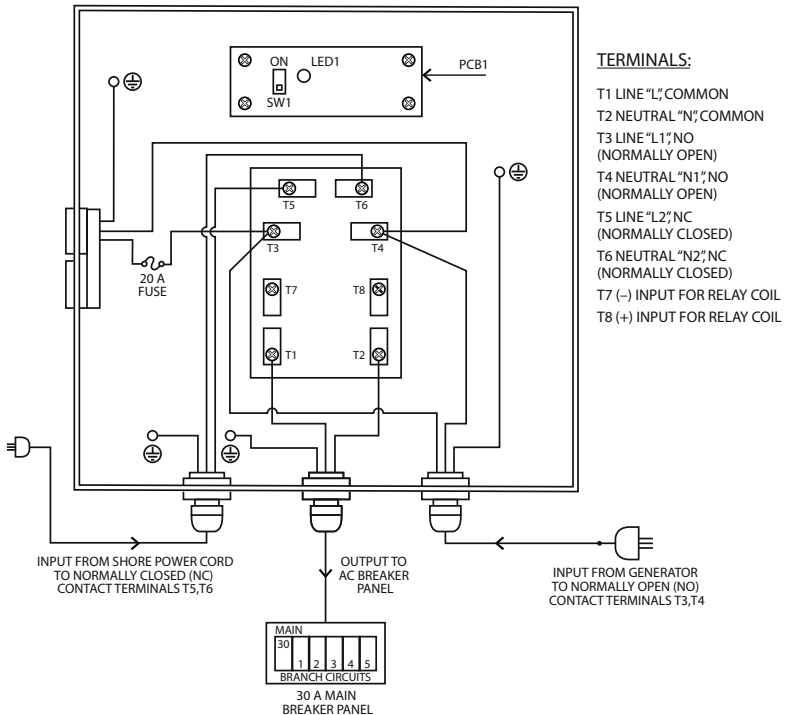

Fig. 5 Typical Generator / Power Cord
- a. Switch ON the AC input power from Utility/Shore Power Cord (RV). As the time delay has been disabled (As explained above, if the primary source is electric utility / shore power cord, the time delay should be disabled by changing the position of the DIP Switch SW1 to ON position), the relay coil will energize as soon as AC input is switched ON. The Green LED 1 will light up indicating that the relay has energized. If the main panel circuit breakers are switched ON, the AC loads should operate normally. The external battery charger will start charging the batteries.
- c. Switch OFF the AC input power from Utility/Shore Power Cord (RV). The relay will immediately de-energize and the AC loads will be transferred to the inverter.
### SWITCHING BETWEEN UTILITY/SHORE POWER CORD (RV) AND GENERATOR (FIG 5)
### TESTING OF THE OPERATION (FIG 5)